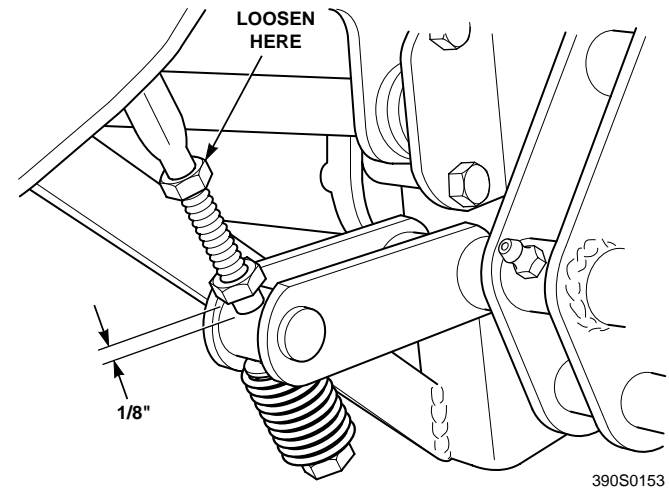

Figure 6-2. Brake Rod Adjustment
4. With the brake in the engaged position, check the distance between the lower nut on the brake actuator rod and the brake actuator lever on the LH side of the machine. The distance should be 1/8" (See Figure 6-2).
5. If the distance is not at the specified measurement, loosen the jam nut at the clevis on the top of the brake actuator rod (See Figure 6-2).
6. Turn the bolt at the bottom of the brake actuator lever until the 1/8" measurement is achieved and tighten the jam nut at the clevis on the brake actuator rod. (See Figure 6-2).